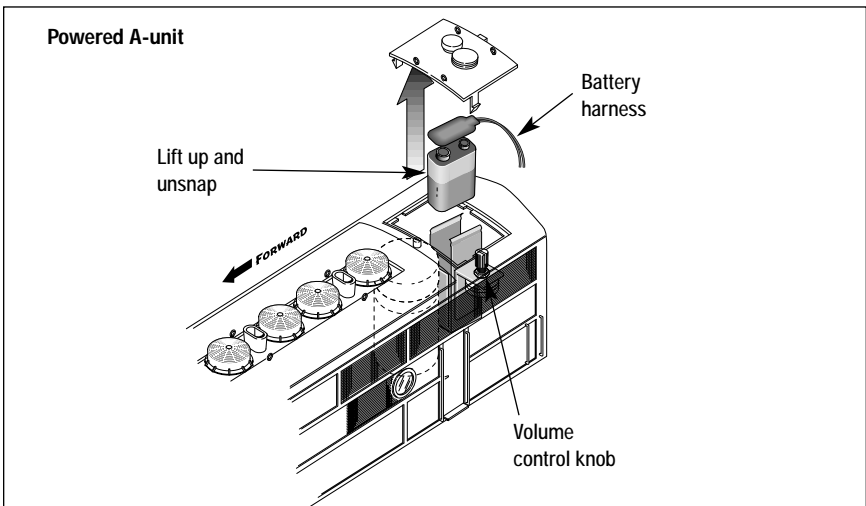

Figure 3. Battery installation (powered A-unit locomotive only)
While the RailSounds sound system is powered through the track, we recommend that you install a nine-volt alkaline battery in the powered A-unit locomotive to prevent the sound system from shutting down during track power interruptions (for example, at a switch or a dirty section of track). Follow these steps and refer to Figure 3 as you install the battery.
To silence the motor sounds, slide the RailSounds 5.0 sound system switch located on the underside of the powered A-unit locomotive to the SIGNALSOUNDS position before you power up the locomotive or after the locomotive has been powered down for a minimum of ten seconds. The horn and bell sounds will still be active. To adjust the volume, use the volume control knob located under the rear roof-top hatch of the powered A-unit locomotive. Refer to Figure 3 on page 10.
- **Shutdown sequence.** When you turn off track power, you have two seconds to power up again after you hear the reverse unit reset sound. If you do not restore power, you will hear the realistic diesel shutdown sequence. Because track power is off, a nine-volt battery is required for this sequence to function. Refer to Figure 3 on page 10.
- **Shutdown sequence.** When you turn off track power, you have two seconds to power up again after you hear the reverse unit reset sound. If you do not restore power, you will hear the realistic diesel shutdown sequence. Because track power is off, a nine-volt battery is required for this sequence to function. Refer to Figure 3 on page 10. You may also trigger the shutdown sequence without powering down the track using the **AUX1, 5** command when the locomotive is stopped and the diesel RPM sounds are at their lowest level.